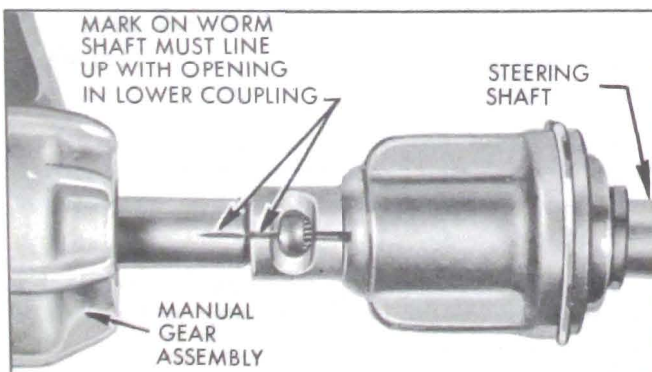

Figure 8-11—Correct Worm to Lower Coupling Attachment
4. Slide lower coupling on worm shaft so that slot in coupling lines up with mark on shaft. See Figure 8-11.